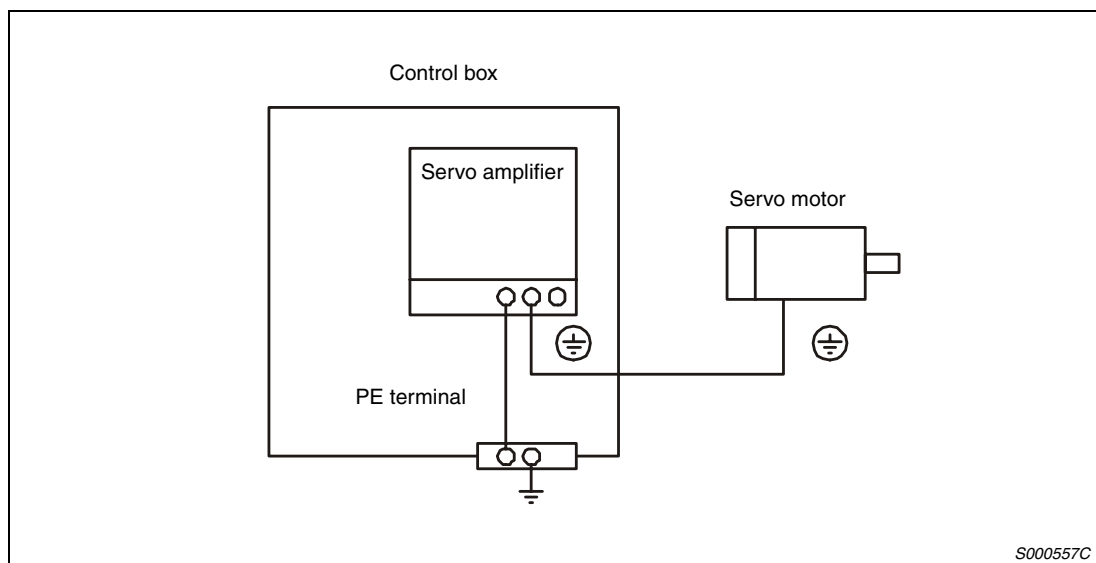

Fig. 3-8: Protective earth connection
- ① Connect the servo motors via corresponding power supply connector.
- ② For grounding, connect the earth cable of the servo motor to the protective earth (PE) terminal of the servo amplifier. Simultaneous connect the ground cable of the servo amplifier to the earth via the protective earth of the control box. Refer fig. 3-8.
- ③ When using a servo motor with brake then it must be connected via an external voltage source of 24VDC.